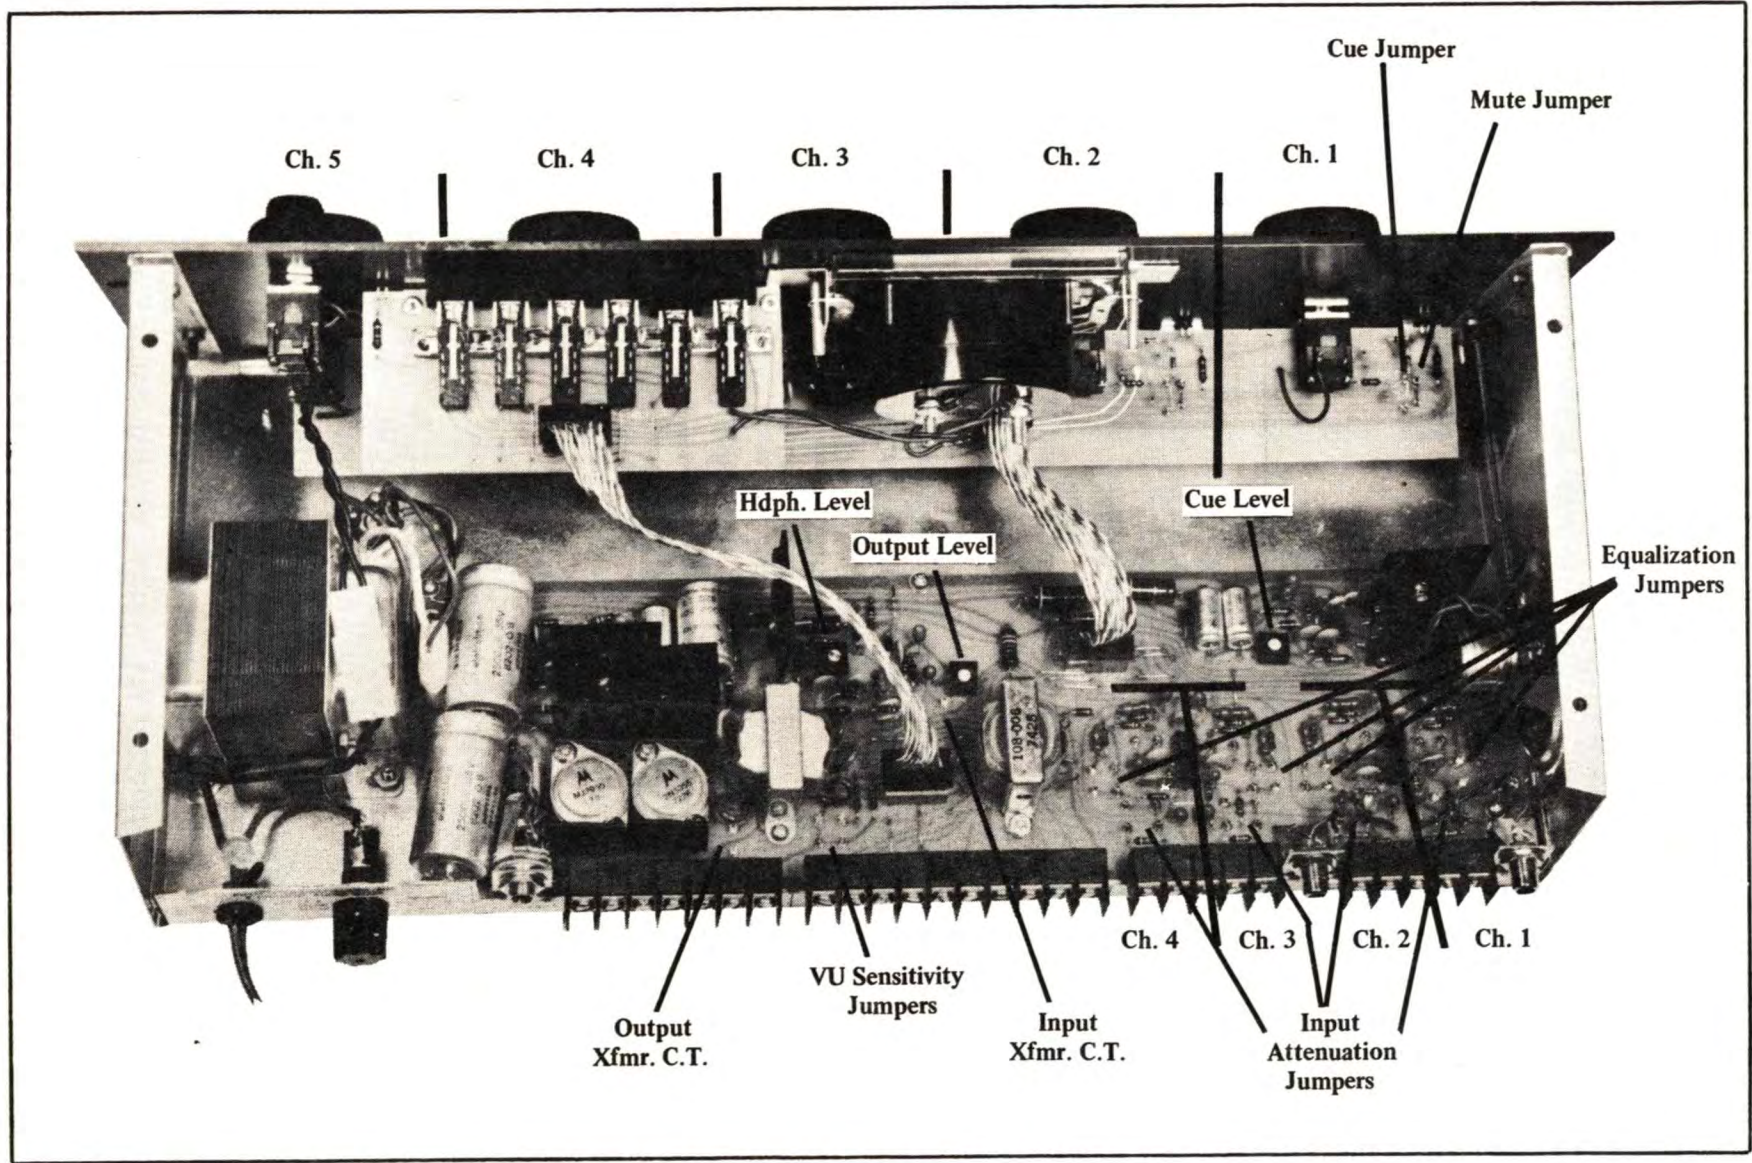

Figure 3-1. Jumper and Level Set Control Locations
- 3-2. Jumper locations are shown in figure 3-1.